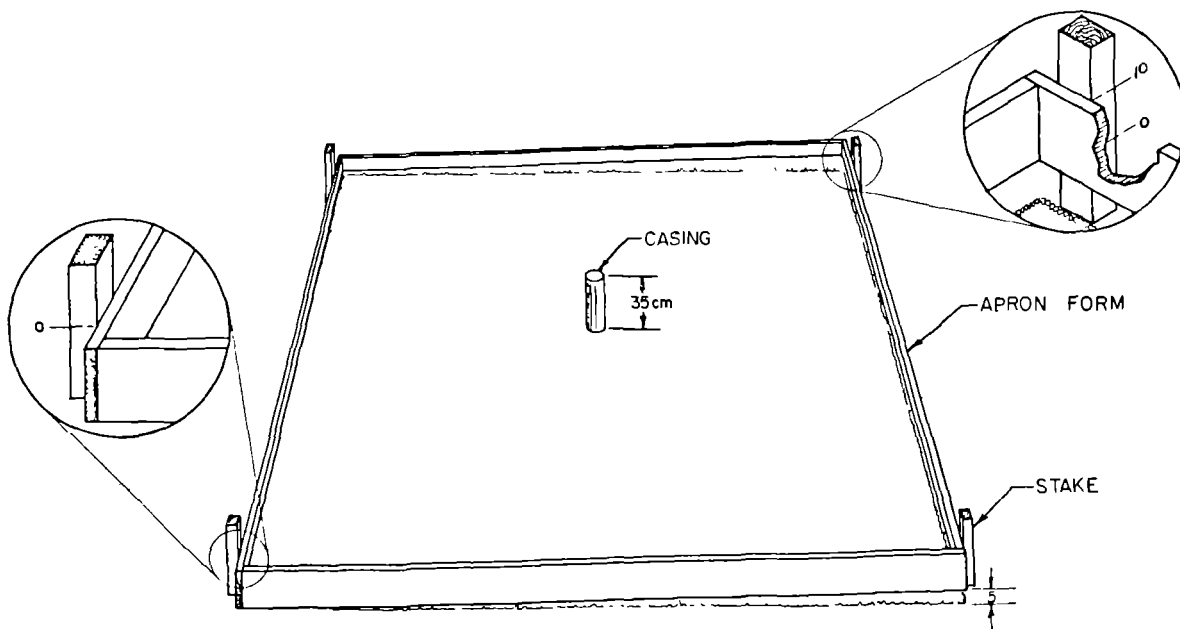

Figure 10. Sloping The Apron Form
Drive stakes at the four corners of the apron form as shown in Figure 10. The apron form is then tilted in the direction of the drain to facilitate drainage. Mark on the stake nearest the drain fifteen (15) cm above the ground. A mark is then placed on the opposite stake ten (10) cm above the first mark. Use a level or water-filled clear hose to obtain exact heights. The other two stakes are marked at points five (5) cm above the first mark. Line up the top of the apron form with the marks and nail the form to the stakes. Gravel and sand are used as fill to build up to the bottom of the raised apron form.